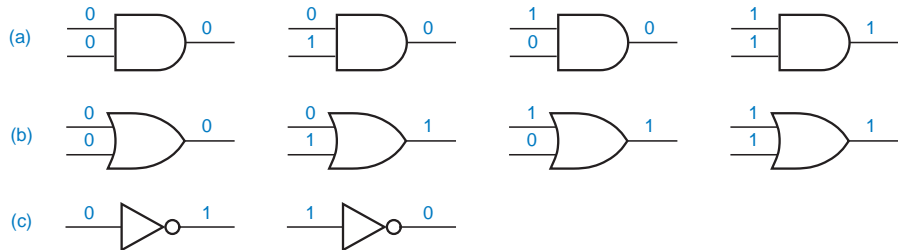

Figure 1: Digital devices: (a) AND gate; (b) OR gate; (c) NOT gate or inverter.
- Any digital function can be realized using just three kinds of gates shown in Fig. 1